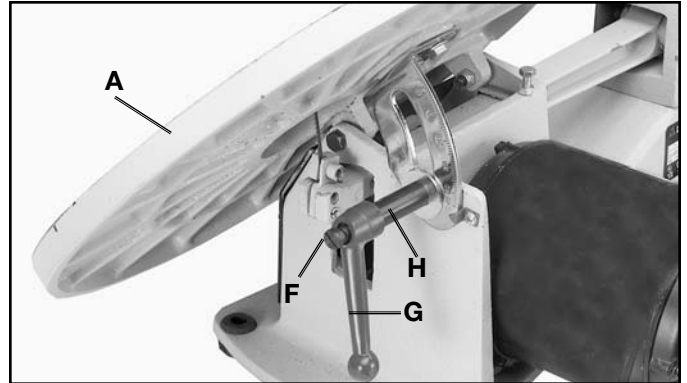

Fig. 7
5. Reassemble handle (G) Fig. 7, and screw and spring (F) which were removed in STEP 3, onto stud (H). Move table (A) to the horizontal position and lock table (A), by turning handle (G) clockwise.